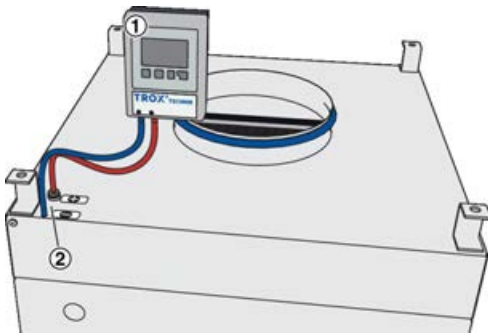

Fig. 11: TROX MD-DPC connection
**Permanent measurement:** Continuous differential pressure measurement and monitoring of the final differential pressure. This is done with a static differential pressure measuring device (Fig. 11/1), e.g. TROX MD-UT, MD-APC or MD-DPC, using the pressure measurement points (Fig. 11/2) at the side or on the top of the casing.
**Temporary measurement:** Temporary differential pressure measurement with a mobile measurement device connected to the internal measuring tube (Fig. 11/2). For this, you have to remove the diffuser face, see '11'.
Plus (+) - to the internal measuring tube (Fig. 11/2)